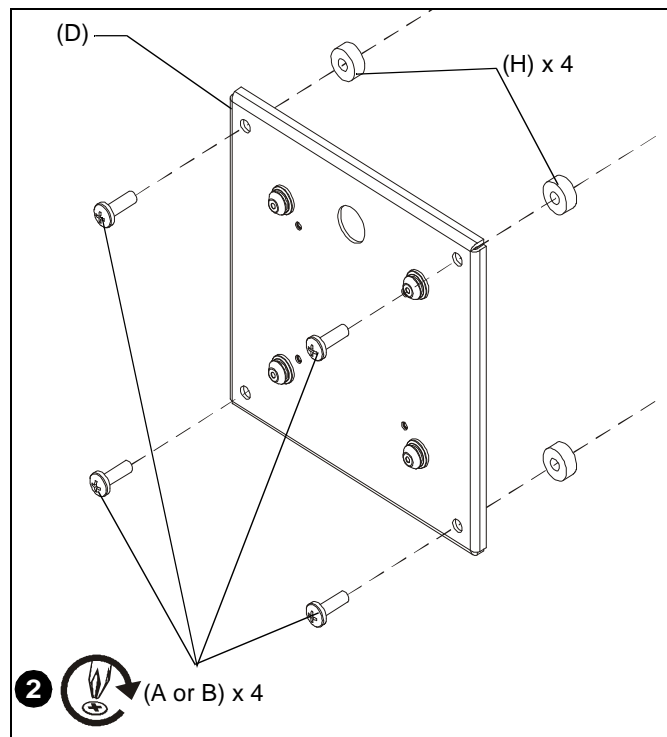

Figure 2
2. Attach interface bracket (D) to back of display using four M8 x 20mm Phillips cap head screws (B) or four M8 x 25mm Phillips cap head screws (A), and four spacers (F). (See Figure 2)